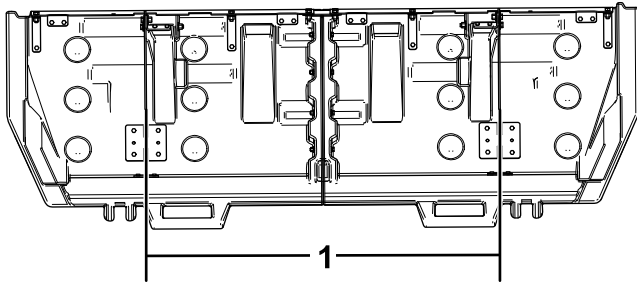

Figure 17
4. On the cover, measure the distance between the tracks (Figure 17).